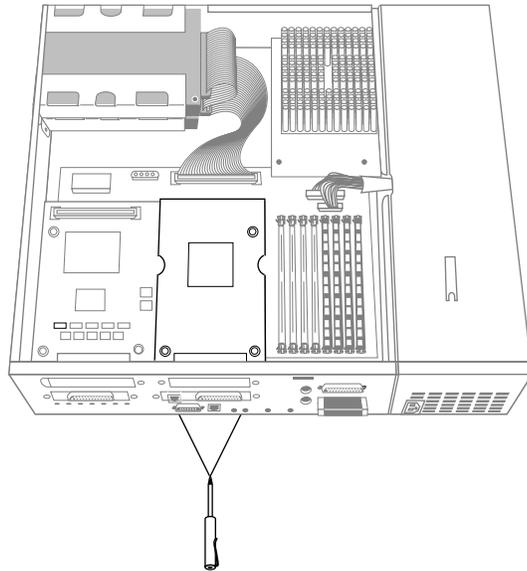

Figure 2-8 Removing GIO Board Screws at the Rear of the Server
3. Using the Phillips screwdriver provided with this upgrade kit, remove the screws from the GIO board connector on the rear of the server, as shown in Figure 2-8.